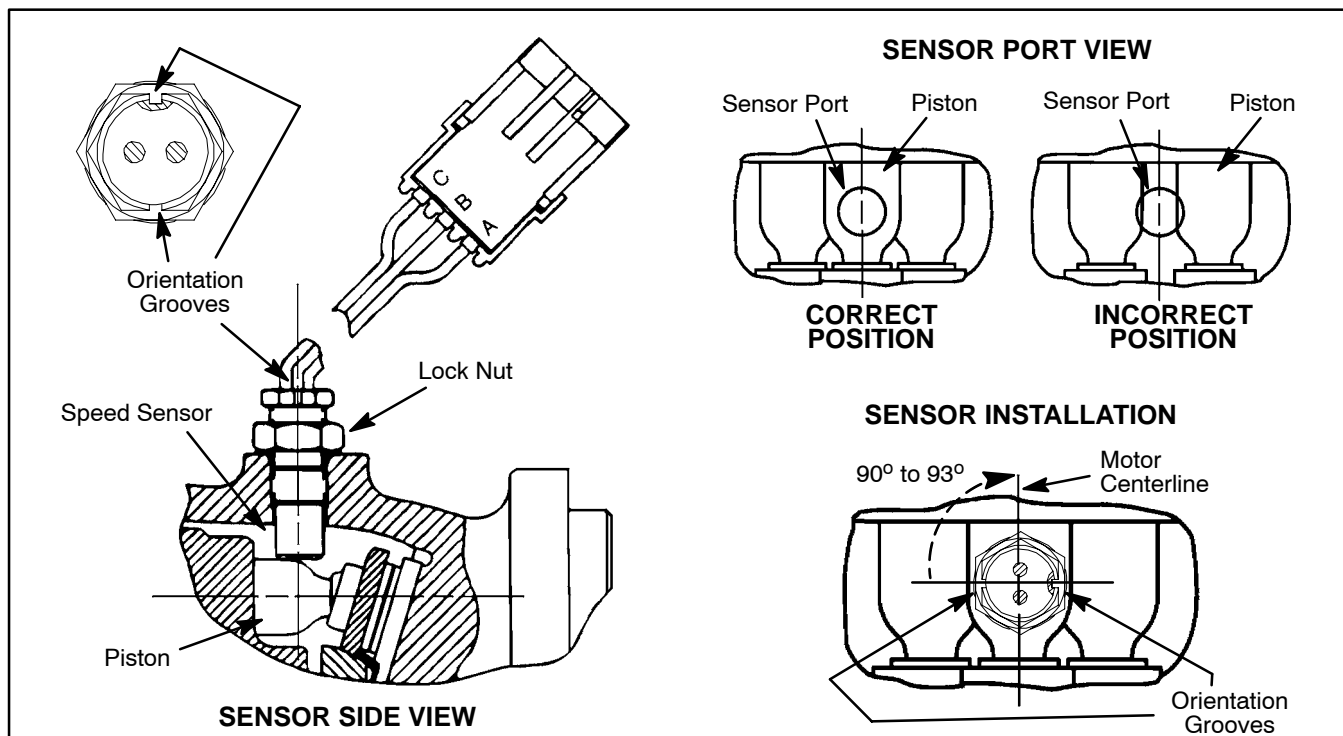

Figure 46
2. Center a wheel motor piston in the center of the sensor port (see Sensor Port View in Fig. 46). Use a suitable tool to feel when a motor piston is in the center of the sensor port.